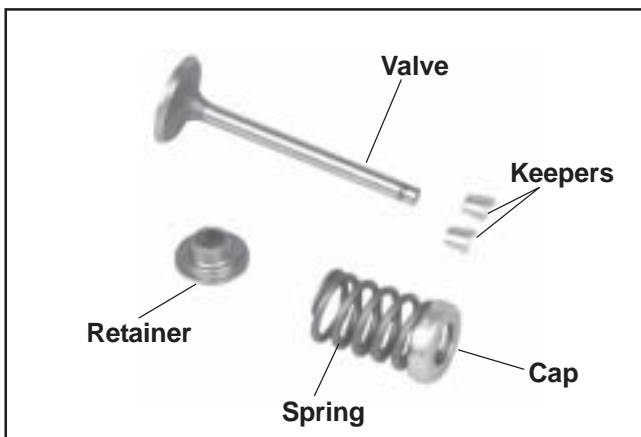

Figure 9-58. Valve Train Components.
3. Once the valve spring is compressed, remove the following items. See Figures 9-58 and 9-59.